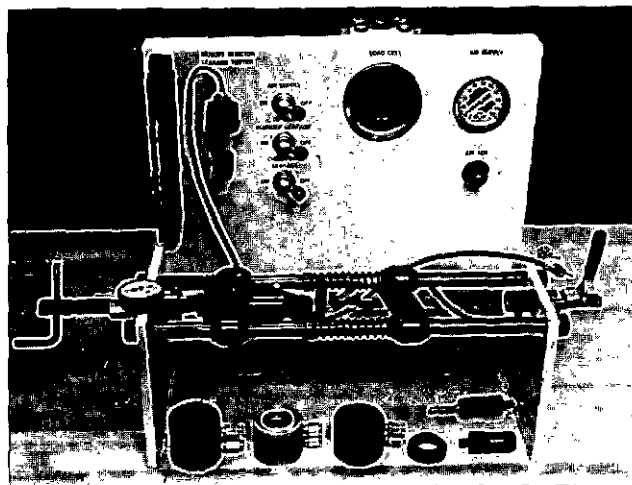

Fig. 4-11. 3375375 Injector Leakage Tester
2. To install the leakage tester, see the assembly and installation bulletin that is shipped with the tool, Fig. 4-11.